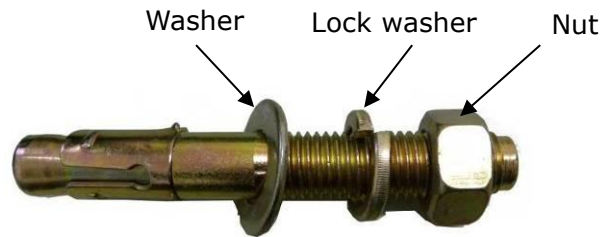

Fig.16
1. Prepare anchor bolts (See Fig. 16).